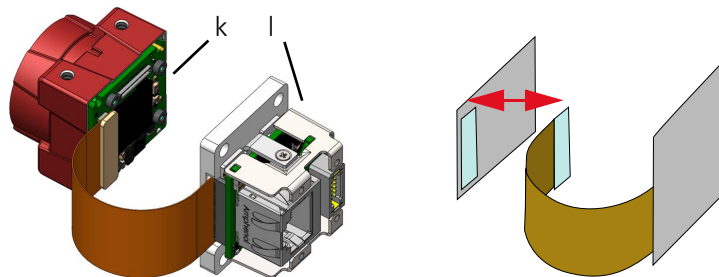

Figure 61: Aligning the connectors of the interface unit and the sensor unit
- Ensure the FPC connectors of the interface and sensor units are oriented to each other as shown in Figure 61. **Do not rotate by 180°.**
2. Align the connectors of the interface unit (l) and the sensor unit (k) to each other as shown in Figure 61.